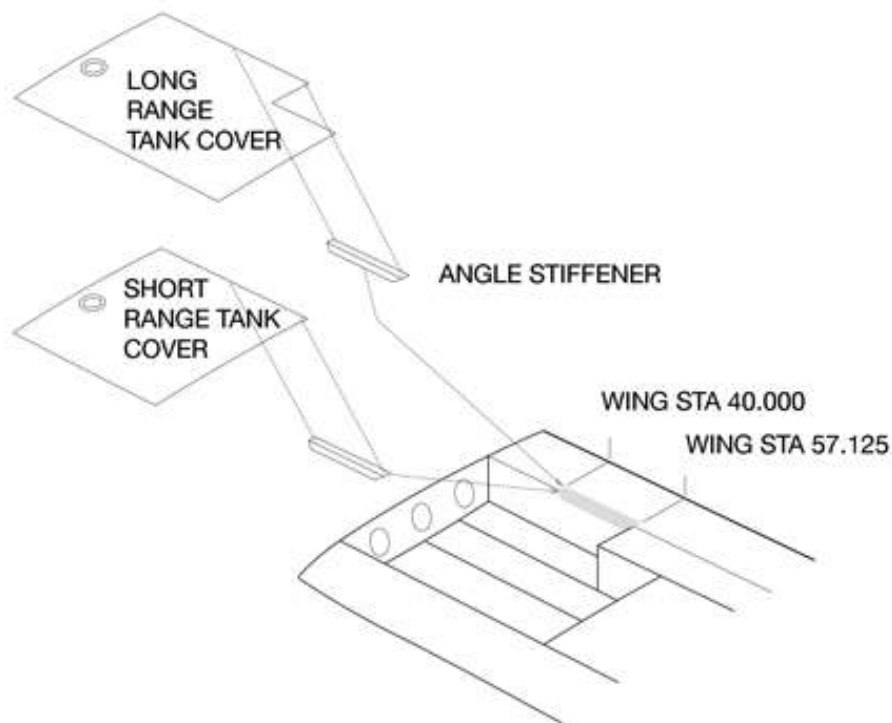

Fig. 2: Fuel Tank Cover and Angle Stiffener
- 3) Retain and secure the 0.040" formed aluminum angle stiffener (p/n 17025-40//57) on the rear spar at the outboard corner of the fuel tank bay. This angle becomes free when the screws are removed. Refer to Figure 2.
- 3) Confirm that the angle stiffener is properly in place. (The angle stiffener is secured using 6 MS27039-0808 machine screws.) Refer to Figure 2.